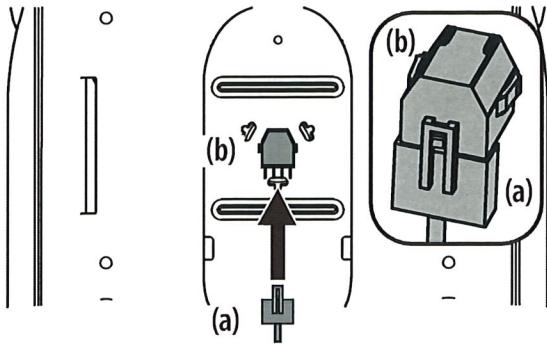

Figure 5
- If necessary, securely connect the seat switch wiring harness (a) to the seat switch (b). See Figure 5. Secure excess wire away from pinch points before continuing.